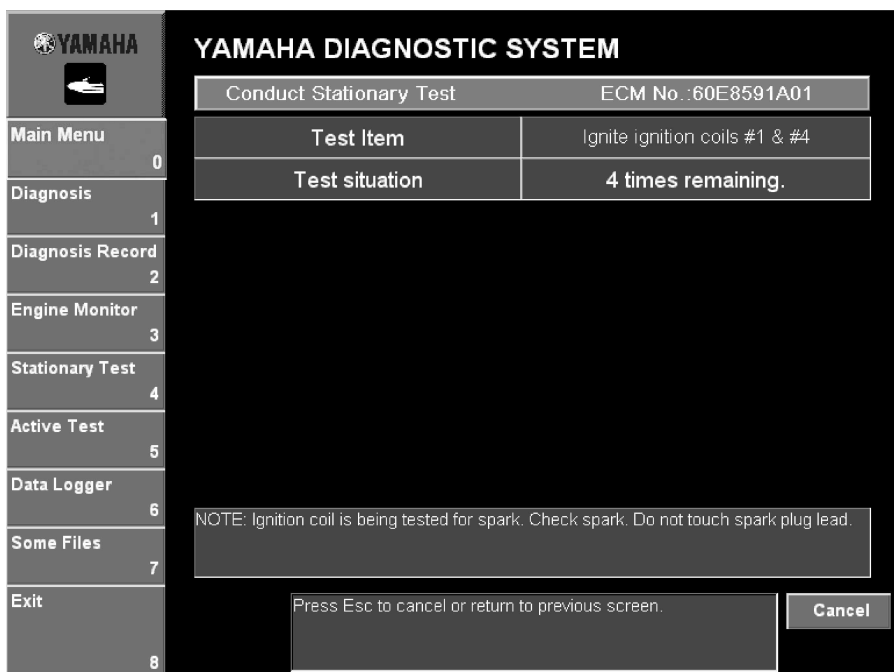

Fig. 73
6. While checking the information that appears in the **Test situation** column, follow the test instructions in the messages that are displayed. (See fig. 73.)
7. To stop the stationary test, click the **Cancel** button. (See fig. 73.)